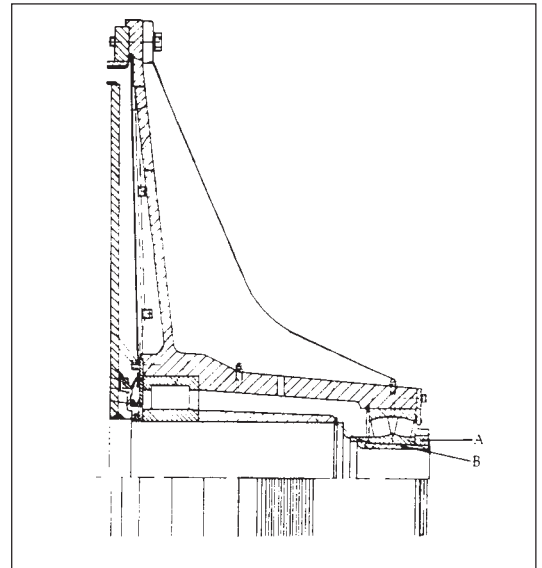

Figure 5. Clamp sleeve with nut
7. Loosen the clamp sleeve nut, A, approximately 2 turns and then tap the sleeve in, B (figure 5).